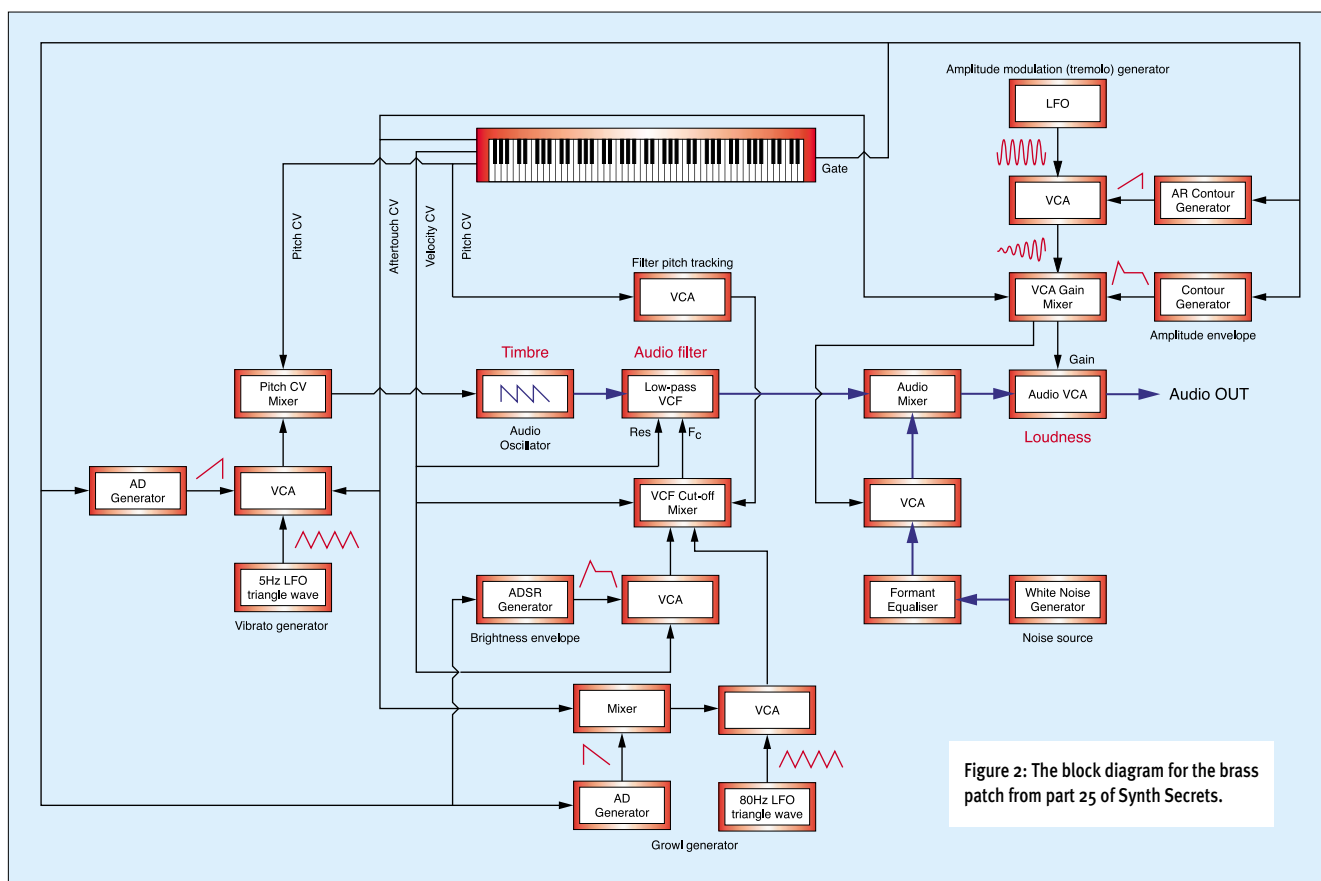

Figure 2: The block diagram for the brass patch from part 25 of Synth Secrets.
- using the more limited (single-oscillator, single-contour-generator) architecture offered by the SH101. Let's start by referring back to the block diagram for a brass patch, first shown in part 25 of Synth Secrets (see Figure 2, below).
Clearly, the SH101 has far too few component modules to recreate this in full, so I'll have to restrict myself to the most important elements of the sound. This means that the delayed vibrato to the left of Figure 2 will have to go. Similarly, the shaped noise is a goner. As for the tremolo and some of the complexities of the growl generator... sorry chaps, but there's no place for you, either. So what *can* I do?